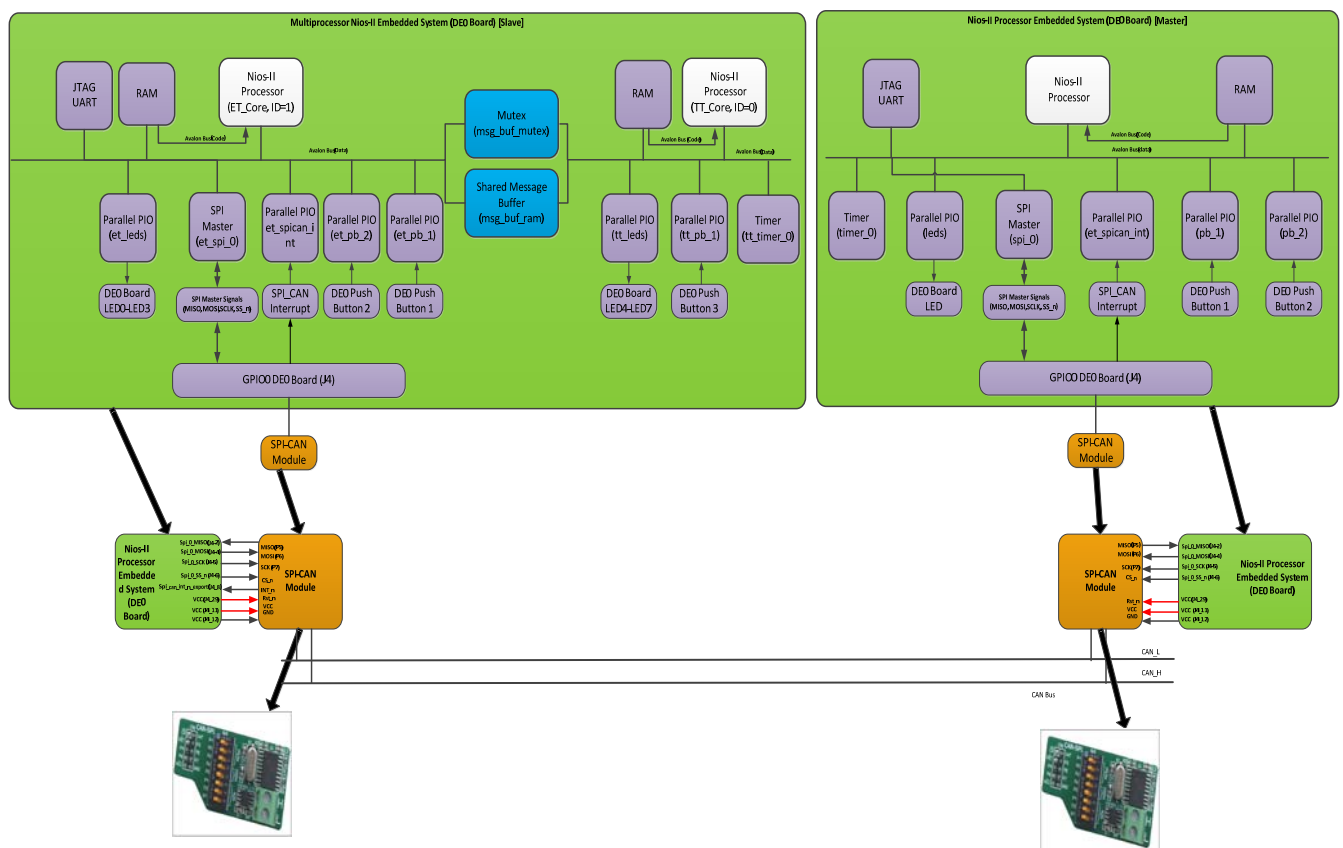

Figure 1
- The Nios II processor configuration on each board, as illustrated in Figure 1, should be captured in a separate Quartus II project using the Qsys tool.